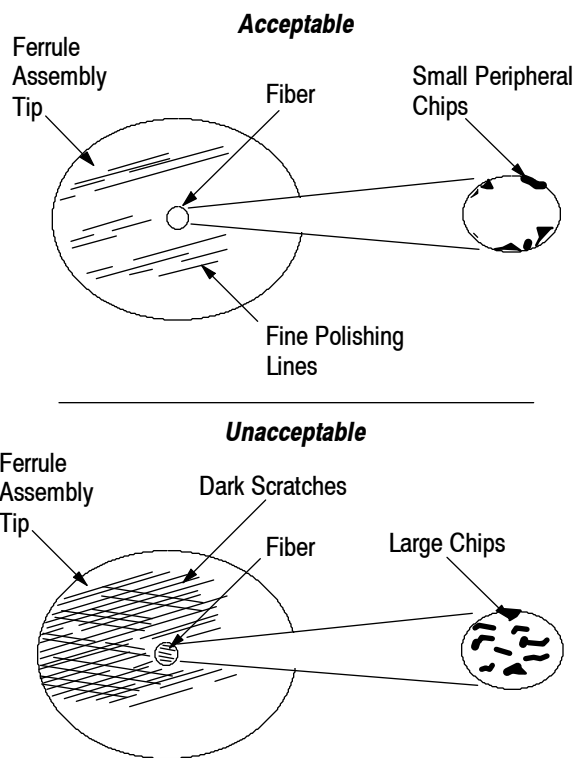

Figure 10
1. Using the microscope kit, inspect the ferrule assembly and fiber according to the following criteria (refer to Figure 10):